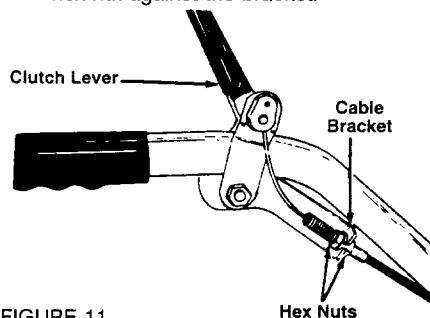

FIGURE 11
**If the belt turns with the unit in neutral,** adjust by moving the hex nut below the cable bracket **down** two full turns. See figure 11. Tighten the upper hex nut against the bracket.